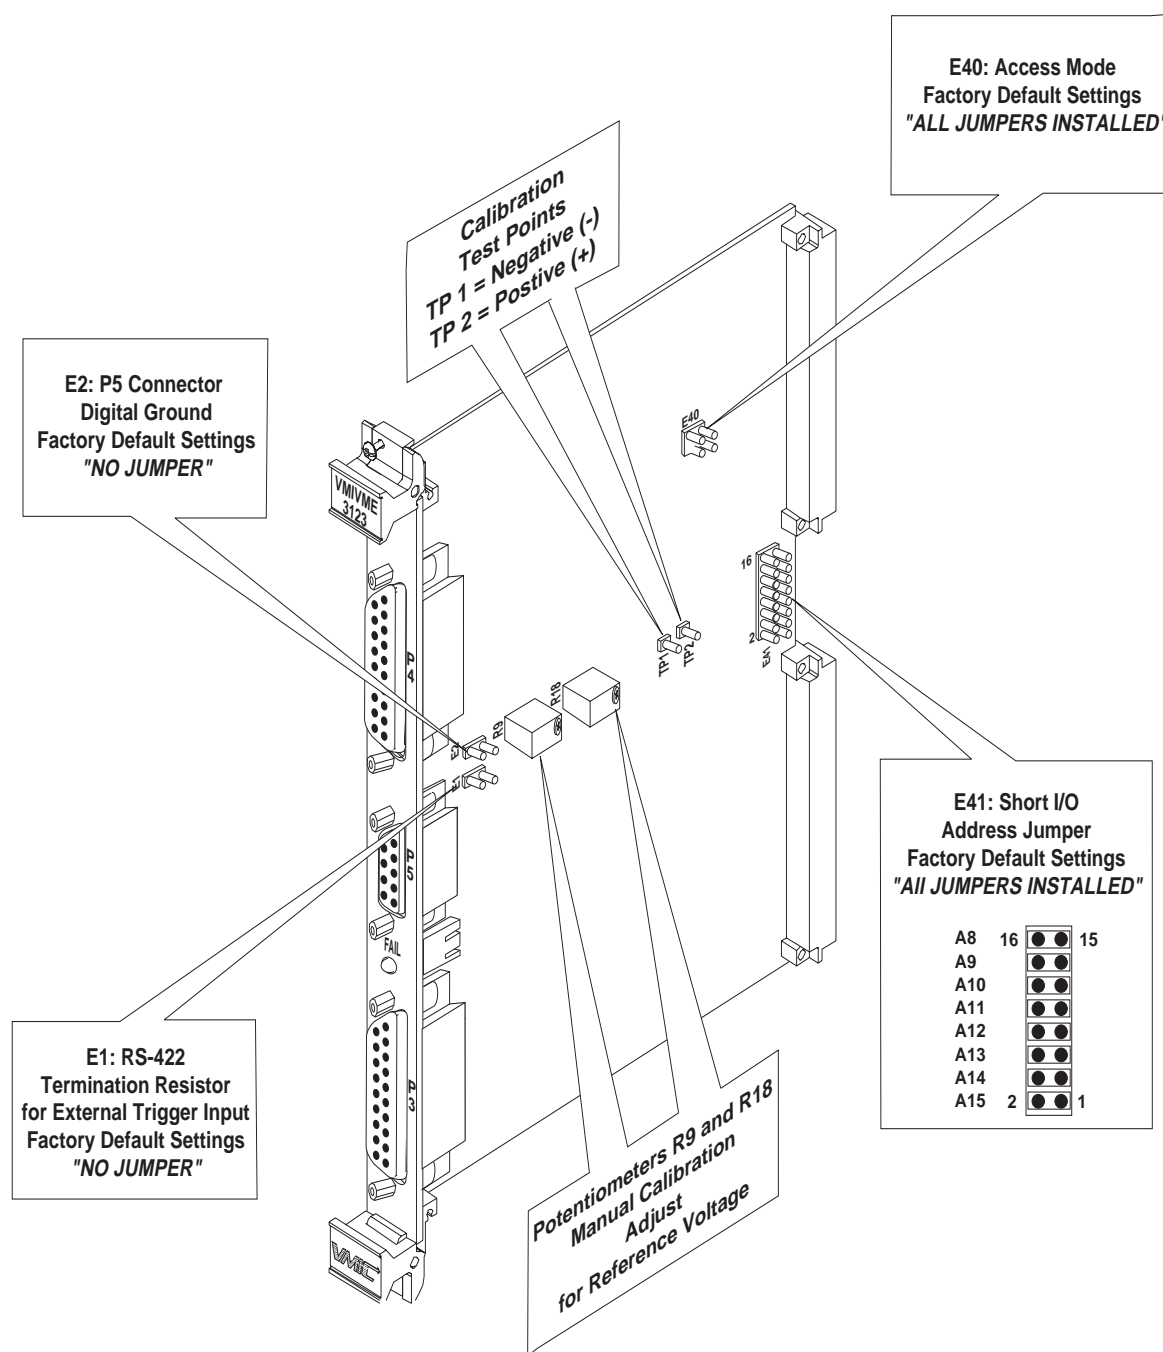

Figure 2-1 Locations of User Configurable Jumpers, Calibration Potentiometers and Test Points
The VMIVME-3123 is designed to minimize the number of field programmable jumpers to be set by the user. VMEbus Short I/O address offset and access modes are controlled by field replaceable jumpers. In addition to these jumpers, the board contains a RS-422 termination resistor jumper. This section describes the use of these jumpers, and their effects on board performance. Locations and functions of all VMIVME-3123 jumpers are shown in Figure 2-1 on page 38 and Table 2-1 on page 39.
1. Attach the voltmeter's positive lead to TP2 and negative lead to TP1 (see Figure 2-1 on page 38 for location of test points and adjustment potentiometers).